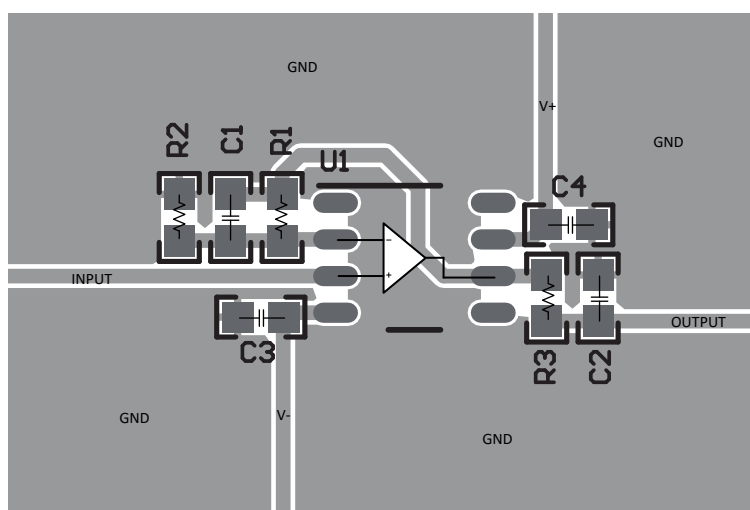

**Figure 33. Operational Amplifier Board Layout for Noninverting Configuration**
- Place the external components as close to the device as possible. As shown in Figure 33, keeping RF and RG close to the inverting input minimizes parasitic capacitance.